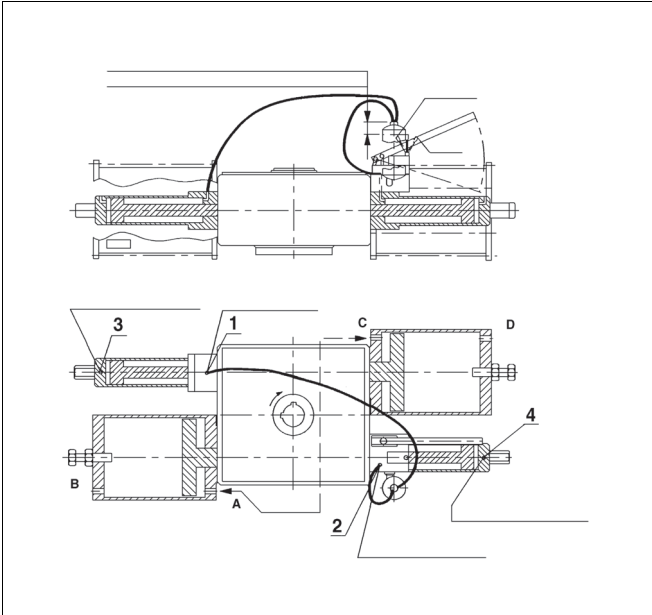
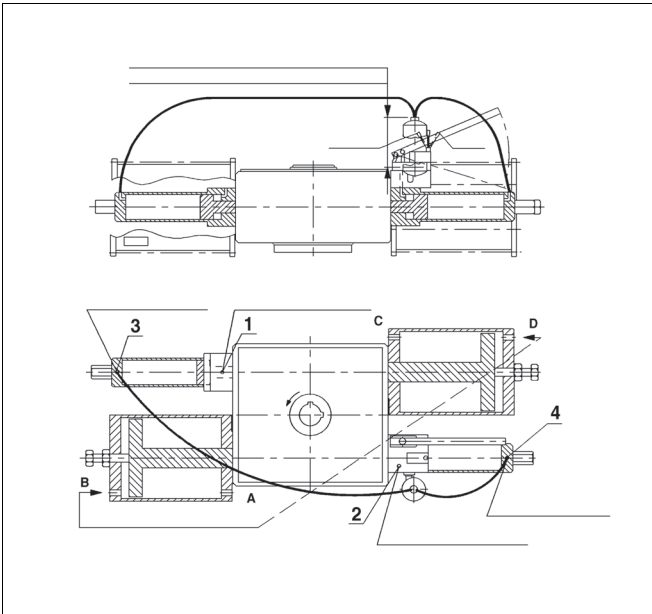

Fig. 23 Valve is open, operation to closed position
Fig. 24 Valve is closed, operation to open direction
If one cylinder is not powerful enough to operate the valve, two cylinders must be used through a T-branch; the pressure is connected as shown in Figs. 23 and 24.
- Operate actuator to open position; pneumatic supply as shown in Fig. 24.
- If actuator is fitted with two by-pass valves (200), open these (lever parallel with pipe).
- Remove oil reservoir air filter (3) and fill reservoir with Esso Univis HVI26 or Shell S-9603 oil. The maximum oil volume of the entire system is 25 litres, the stroke volume of the actuator shaft plus movement (valve to close) is 8.6 litres and that of the minus movement (valve to open) 6.5 litres. The volume of the reservoir is about 7.2 litres.
- Connect pneumatic supply as in Fig. 23 (valve closes). This will cause oil to enter the actuator cylinder. Stop after 60-70° shaft turn and add oil to fill reservoir. Operate the valve to closed position.
- Connect bleed hoses (Ø8/5 mm) shown in Fig. 23 from bleed screws 3 and 4 to reservoir and open screws about 20-30°. The hoses must be at the bottom of the reservoir below the oil surface.
- Connect pneumatic supply as in Fig. 23. Operate valve in open direction about 60-70° and fill reservoir with oil. Continue operating the valve to open position.
- Close bleed screws 3 and 4, connect bleed hoses to points 1 and 2 as in Fig. 23 (or connect four hoses to the reservoir) and open these bleed screws (1 and 2) about 20-30°.
- Connect pneumatic supply as in Fig. 23, stop at about 60-70° and add oil. Operate the valve to closed position.
- Close bleed screws 1 and 2, connect bleed hoses to points 3 and 4 as in Fig. 24 and open these bleed screws (3 and 4) about 20-30°.
- Connect pneumatic supply as in Fig. 24 to operate valve to open direction. Watch oil level; it must remain over the suction pipe at the bottom. Add oil, there should still be room for about one litre. Operate valve fully open.
- Connect bleed hoses to points 1 and 2 as in Fig. 23 and open screws about 20-30°.
- Connect pneumatic hose as in Fig. 23 to operate valve to closed position. Add oil to raise oil level to about 50-70 mm from top of reservoir.
- Connect pneumatic hoses as in Fig. 23 to operate valve to closed position. Add oil to raise oil level to about 50-70 mm from top of reservoir.
- Connect pneumatic hoses as in Fig. 23 to operate actuator to open position.
- Attach reservoir air filter (3).